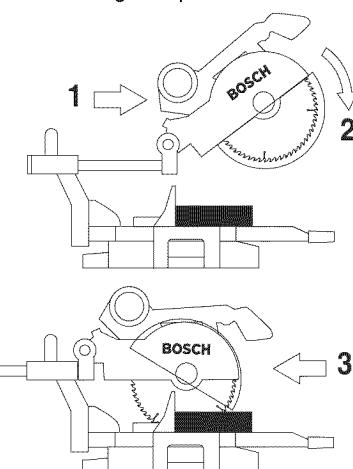

Figure 27. Slide Cut
- Grasp the switch handle and pull the head assembly away from the fence, until the blade clears the workpiece or to its maximum extension if blade cannot clear the workpiece (Figure 27).